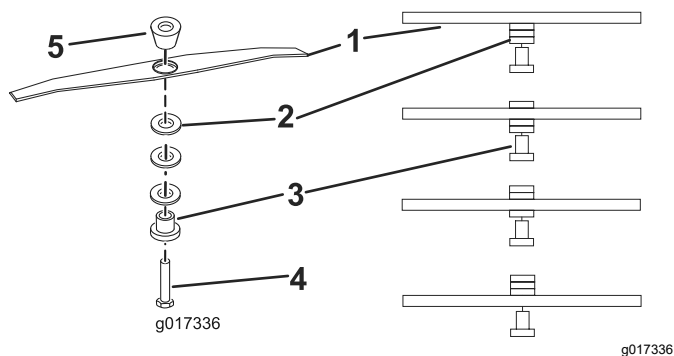

Figure 13
5. Position the spacers to the desired height, then install the cutting unit as shown in Figure 13.